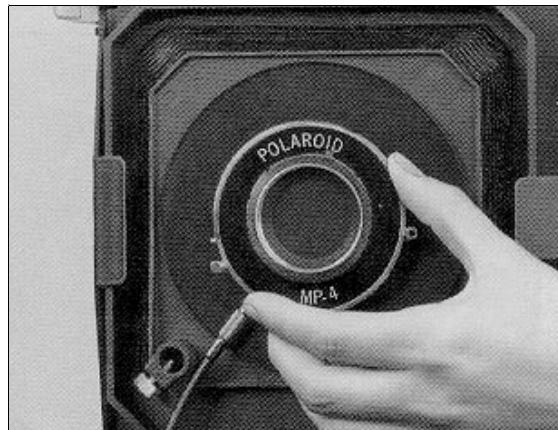

Figure 2-19. Attaching Shutter to Camera
- c. Push the shutter unit onto the camera in that orientation. Rotate it in a clockwise direction (figure 2-19) until it comes to a firm stop.